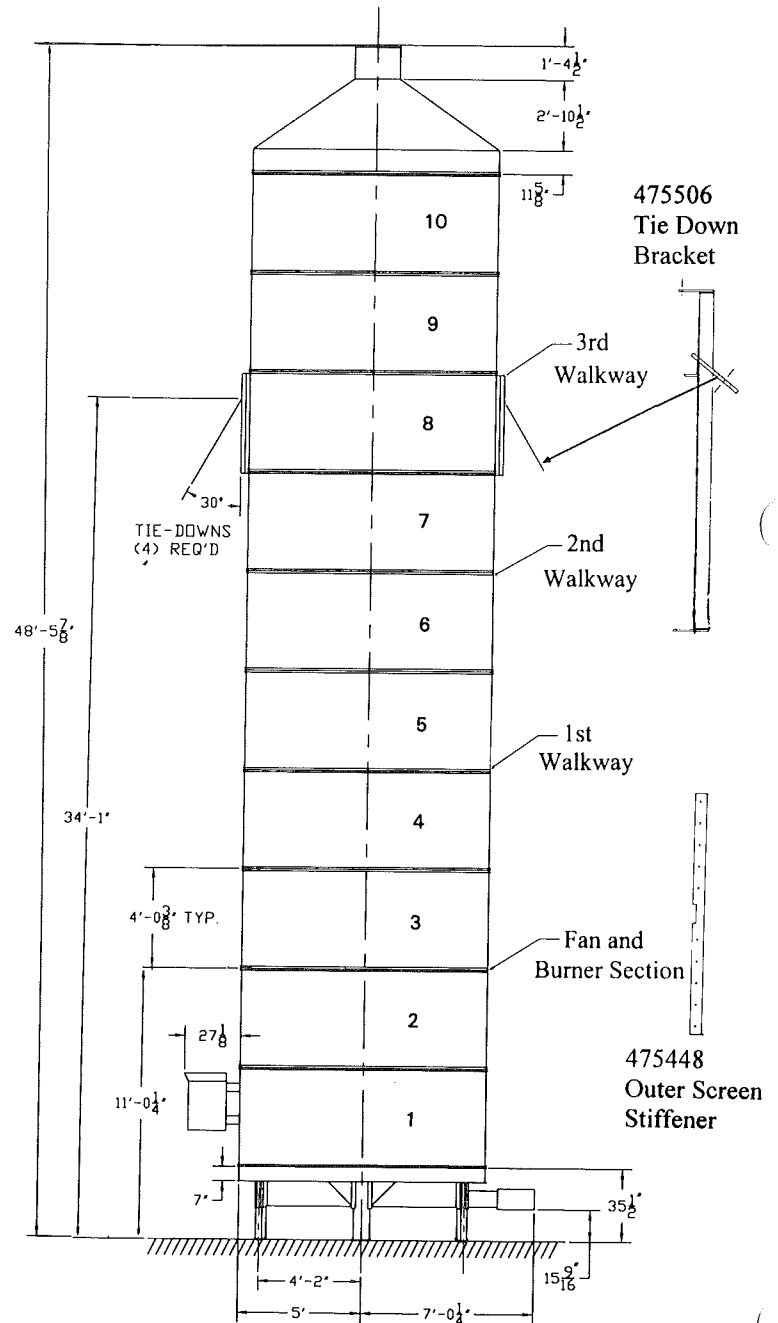

Figure 8
Once all sections are stacked and bolted together, install the (4) guy wire tie Down Brackets #475506 to the outside channel rings of the screen section selected. Figure 8 shows placement of these brackets between the 8th and 9th screen sections, but this may vary with conditions at the dryer site.